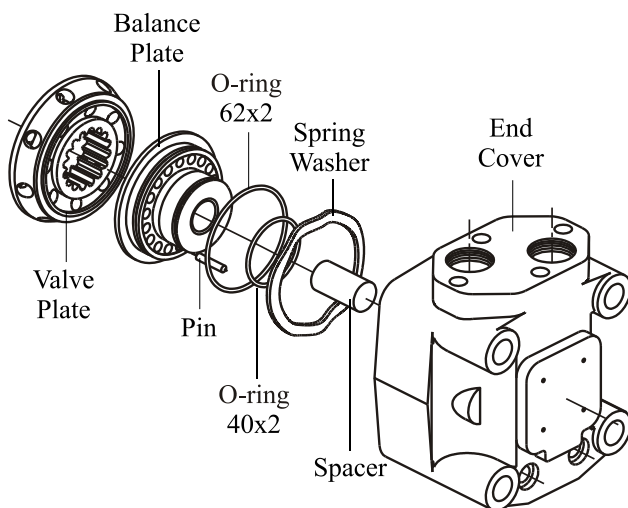

Fig.7
12. Turn the end cover with the hole conversely on a clean soft surface. Knock several times using a plastic hammer on the rear side. Set in order the fallen parts apart (see Fig 7).
18. Mount the lubricated O-rings 62x2 and 40x2 in the relevant grooves of the balance plate (see Fig.7).